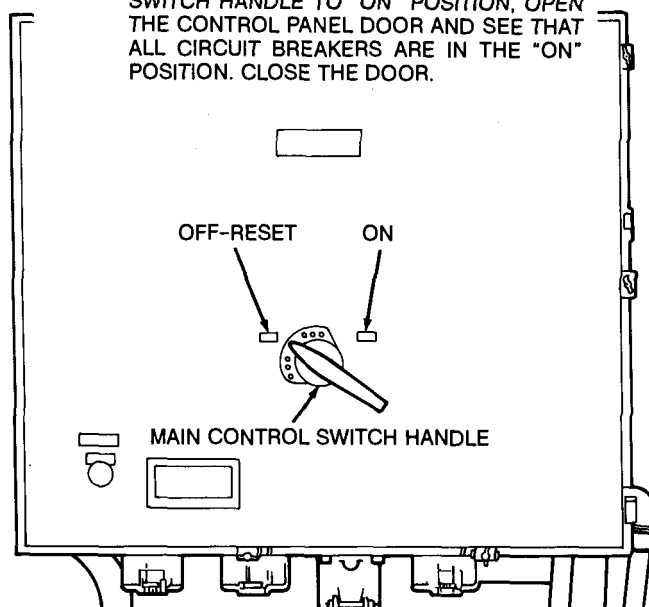

Figure 34. Main control panel switch handle operation.
- (2) Move main control switch handle to OFF position (fig. 34).
- (3) Stop the engine (para 15).